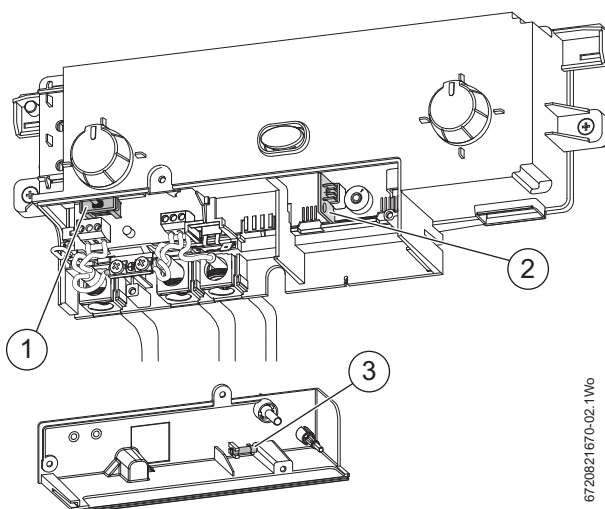

Fig. 91 PCB fuse and code plug location
- ▶ Gently pull the code plug from the socket (2), Figure 91.
- ▶ Remove the four screws (3) retaining the rear panel (1) of the control.
- ▶ Remove the rear panel (1).